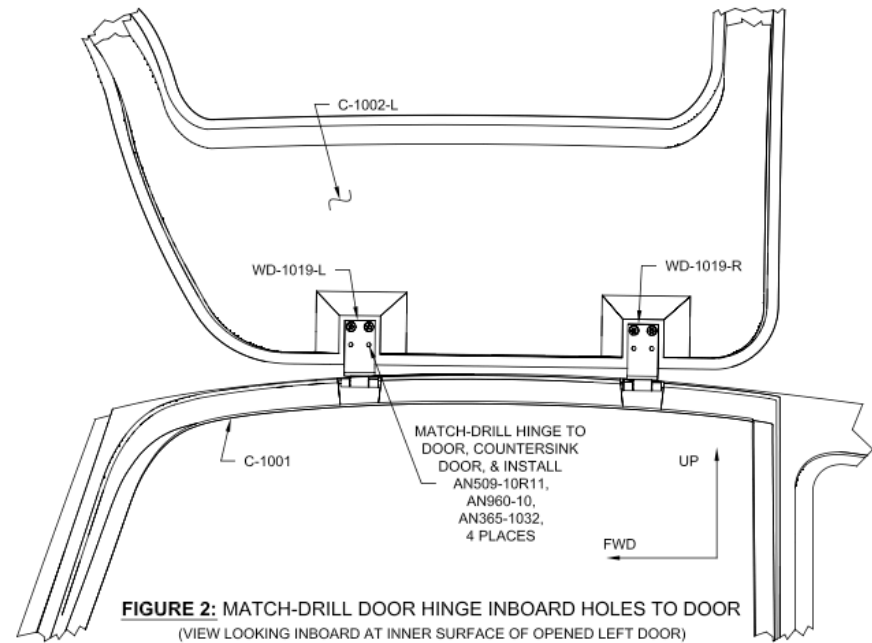

FIGURE 2: MATCH-DRILL DOOR HINGE INBOARD HOLES TO DOOR
Step 3: Un-tape the C-1002-L Door, swing it open and match-drill #12 the remaining 2 holes in each WD-1019 Door Hinge as shown in Figure 2.